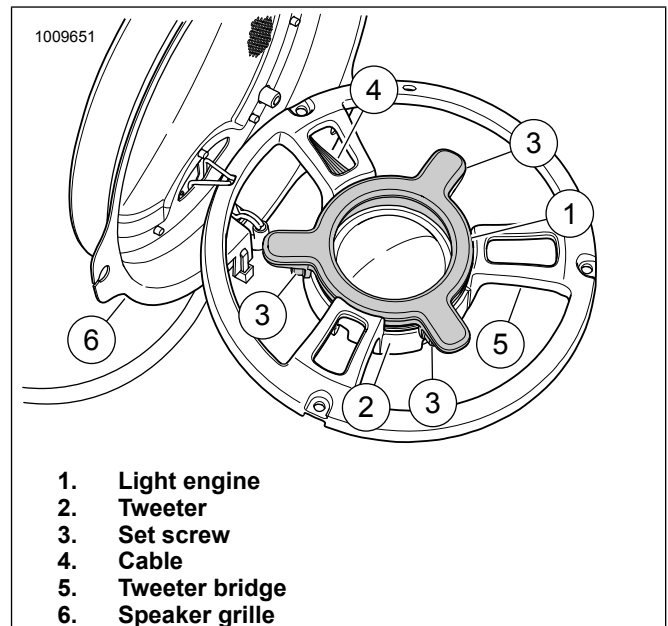

Figure 1. Speaker Grille, Tweeter Bridge and LED Light
See Figure 1. See service manual. Remove upper fairing speaker enclosures. Speaker can remain in the enclosure for light engine installation. Remove three screws that hold tweeter bridge (5) to speaker grille (6) and carefully separate the two. Use caution as not to damage or stress the tweeter speaker wires. Retain hardware for installation.
- Wipe clean the mounting surface area of the tweeter. Position light engine where the cable (4) can be routed under the tweeter bridge.
See Figure 1. Place light engine (1) on tweeter (2) as shown. Lightly compress light engine in place.